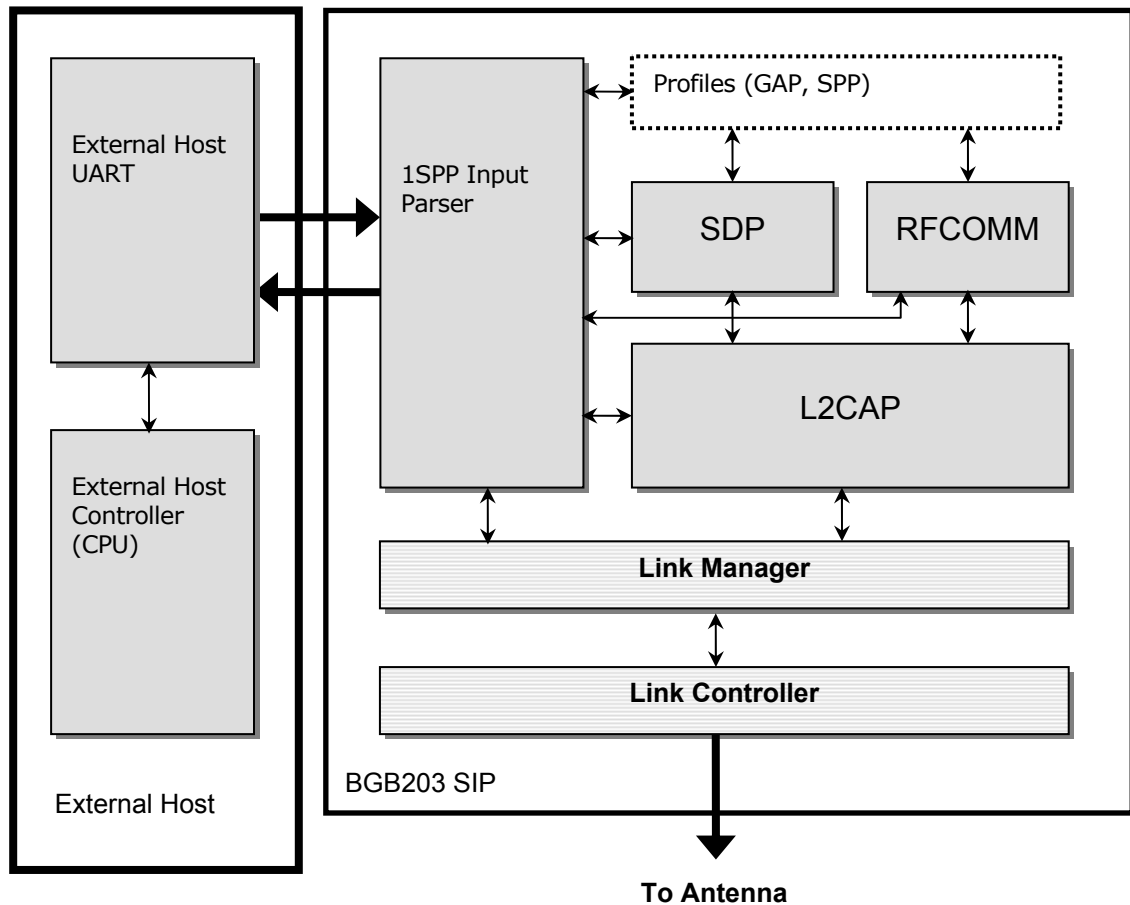

Figure 1:
The 1SPP embedded firmware uses the Philips' BGB203 Bluetooth SIP to provide the Bluetooth Serial Port Profile (SPP) to embedded application designs. This firmware exposes a command set that follows the V.25 and GSM conventions to the application developer that can be accessed through a physical Universal Asynchronous Receive Transmit (UART) interface. These commands are translated by the 1SPP firmware into Bluetooth features. More specifically, the Bluetooth protocol stack features that are included in the 1SPP module are the Bluetooth RF, Baseband/Link Controller (LC), Link Manager (LM), Logical Link and Adaptation Protocol (L2CAP), Service Discovery Protocol (SDP), RFCOMM Protocol, Serial Port Profile (SPP), and the Generic Access Profile (GAP). By including the Bluetooth protocol stack in the firmware and providing an easy to use command set which applications can call externally (see Figure 1), the host processor's requirements are minimized.
The 1SPP firmware is controlled by input received on the UART interface. To make development quicker and easier, the format of the input follows the typical format that a modem accepts. All commands are prefixed by the **AT** prefix. Figure 1 illustrates the overall architecture of the 1SPP firmware/BGB203 combination.